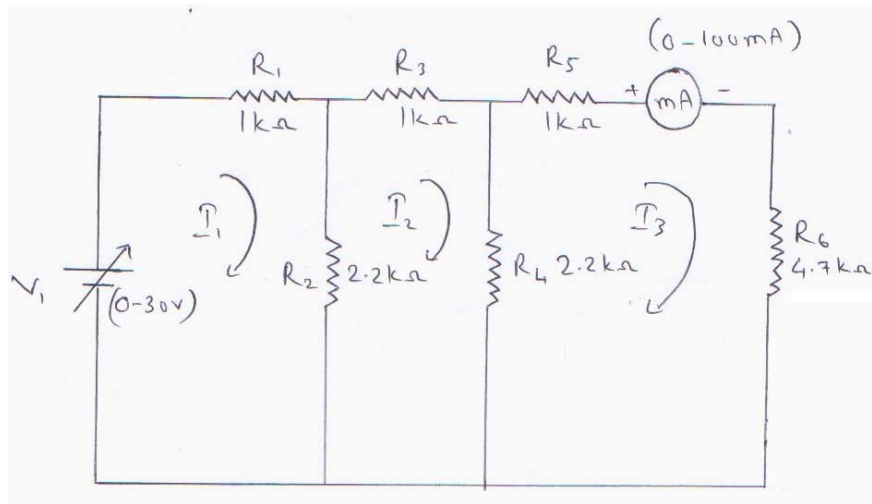

Figure 2.1
1. Connection are made as per the circuit diagram shown in figure 2.1